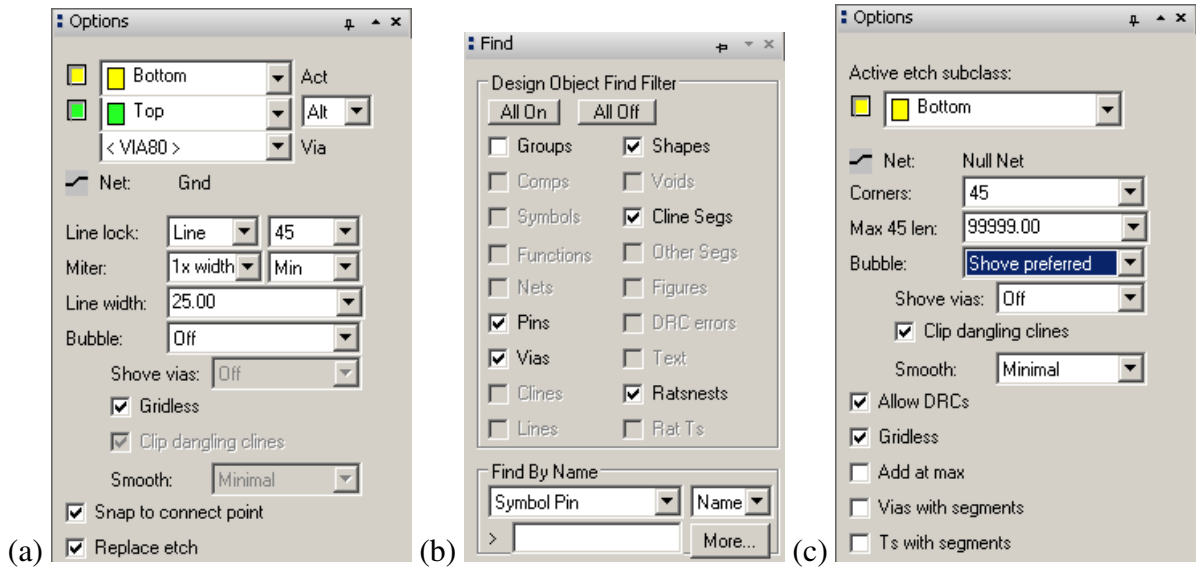

Figure 13. (a) Options and (b) Find control panels for the Add Connect command, and (c) Options for Slide.
2. The Options control panel changes to reflect the current activity and it now shows the layers available for routing. We want all the tracks to go on the bottom of the board so change the Act (active) layer to Bottom, which is painted yellow. You can also change the Alt (alternate) layer to Top, which is painted green, but we need only one layer for this circuit. Line lock should be 45 (degrees), which determines the allowed change in direction of a track. See figure 13(a).
The Find control panel (figure 13(b)) is automatically configured to select the relevant objects for routing: pins, vias, shapes, cline segments and ratsnests. (*Shapes* are typically areas of etch, which is why they are active.)
PCB Editor offers many ways of adjusting the tracks. First make sure that you are not still using the **Connect** tool by right-clicking and choosing **Done** if this appears on the contextual menu. Small adjustments to routed tracks can be made with the **Route > Slide** tool, which loads the Options control panel as shown in figure 13(c) on the preceding page. I suggest that you change **Bubble** from its default of **Shove** preferred, because this encourages Allegro to move tracks around in a startling manner; **Hug** only is more gentle. Click and release the mouse button on a segment to select it, slide it around and click again when you are satisfied with the result. Other helpful tools include **Edit > Vertex** and **Edit > Delete Vertex**.